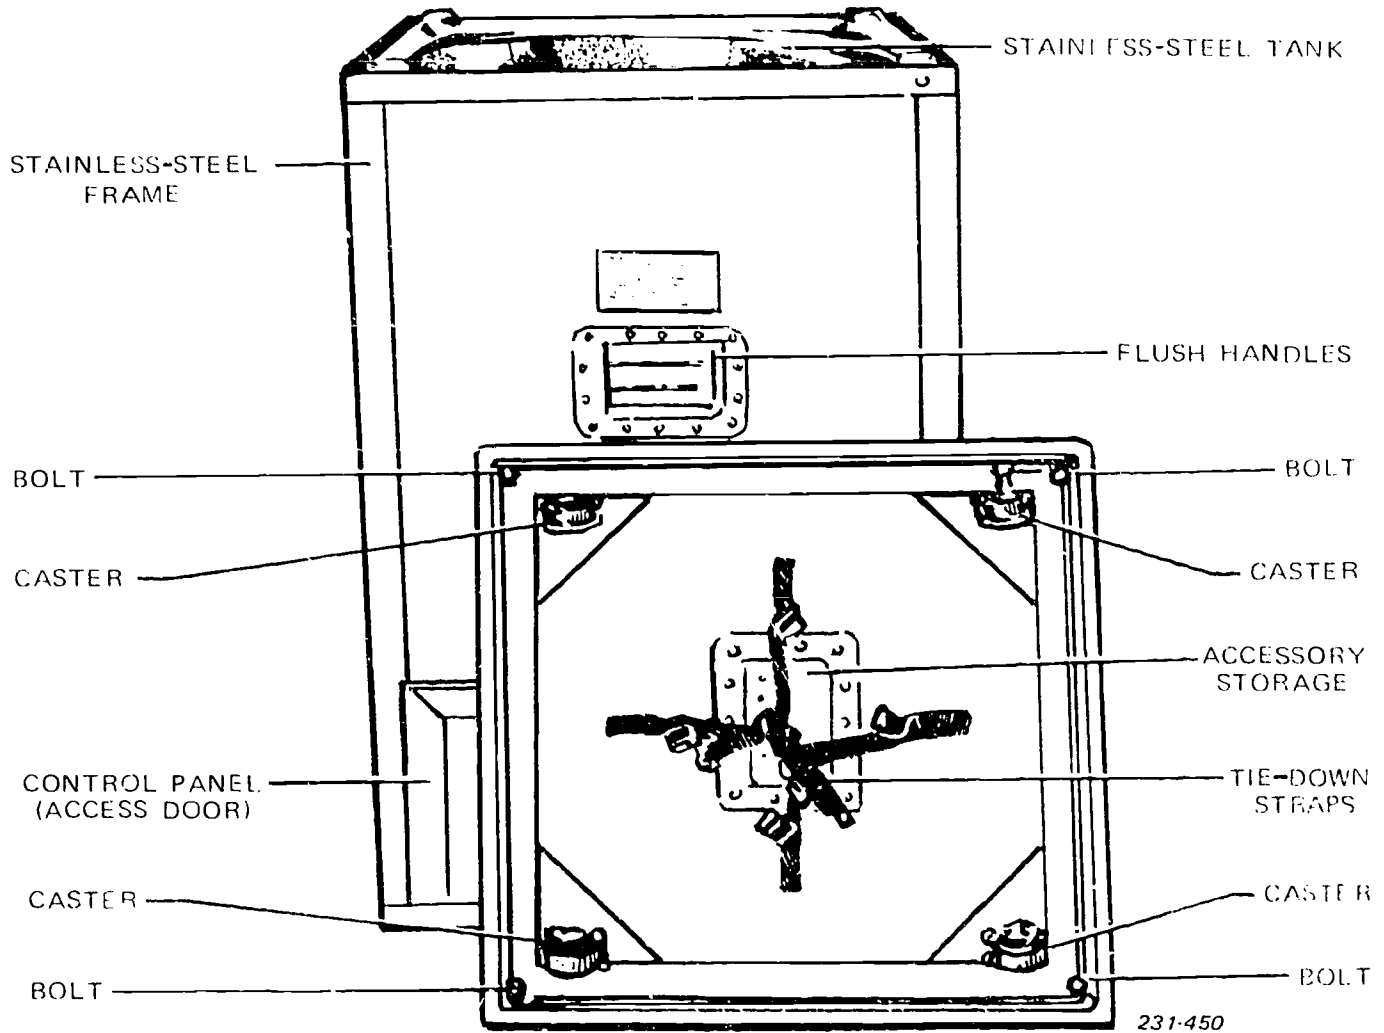

Figure 1-1. A-1 mixer distributor.
**A-1 Mixer Distributor.** The A-1 mixer-distributor, shown in figure 1-1, is designed for mixing chemical solutions and distributing the batch to the point of use. While the A-1 mixer can mix 50 gallons of chemicals at one time, it has the advantage of being mounted on casters, allowing you to mix the chemicals in one location and then wheel the mixture to another location for distribution.